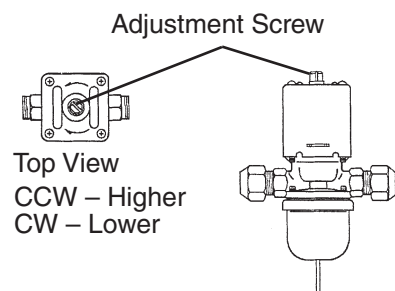

Fig. 3
- 2) Five minutes after a freeze cycle starts, confirm that the thermometer reads 104°F to 115°F (40°C to 46°C). If it does not, use a flat blade screwdriver to rotate the adjustment screw on WRV until the temperature is in the proper range (rotate counterclockwise to raise the temperature or clockwise to lower the temperature). See Fig. 3. Next, check that the reference pressure is in the range indicated in the Head Pressure table in the Performance Data section. If it is not in the proper range, verify the refrigerant charge.